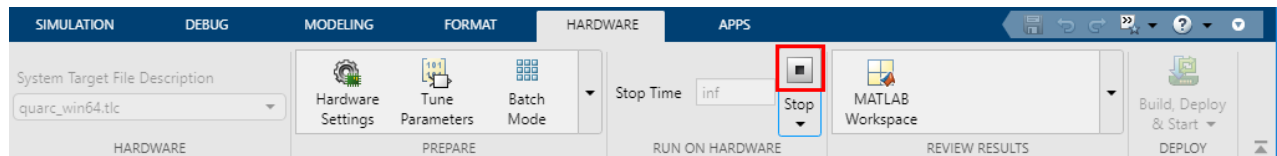

Figure 14: Running Simulink (QUARC+QCAR) Model in External Mode
2. If the model is successfully built and downloaded to the target. Simulink will automatically connect and start the real-time code on the target and the Monitor and Tune button will automatically change to a Stop button (See Figure 14)